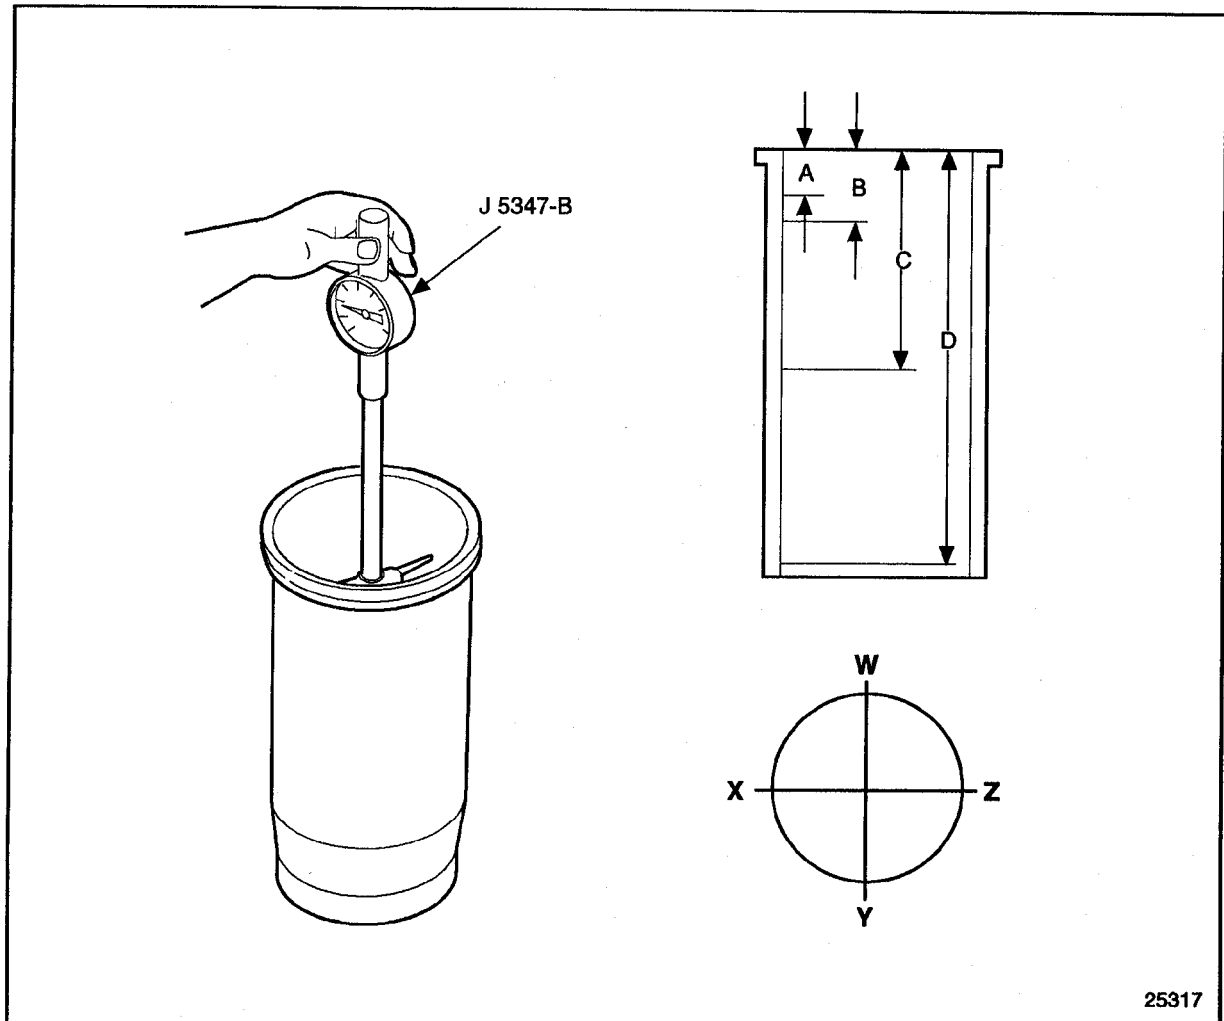

Figure 1-296 Cylinder Liner Measurement Diagram
- [a] Set the cylinder bore gage on zero in master setting fixture. Use cylinder bore gage, J 5347-B, to measure the inside diameter of the liner of various points. The maximum diameter of a used liner is 130.100 mm (5.122 in.) for 12.7 and 11.1 L and 133.100 mm (5.244 in.) for 14L at any measurement location. See Figure 1-296. Also check the liner for taper and out-of-round.